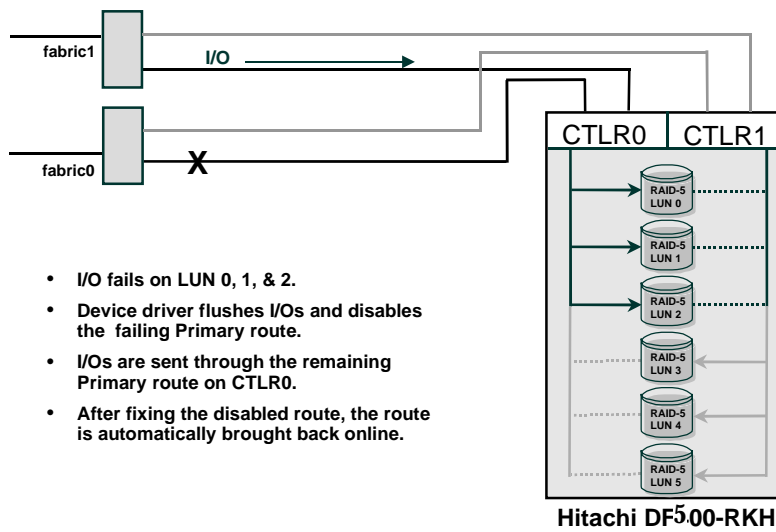

Figure 7-3.
- In Figure 7-3, the Primary route on fabric 0 to Controller 0 has failed. Note that I/O continues to Controller 0 through the *Primary* route on fabric 1.